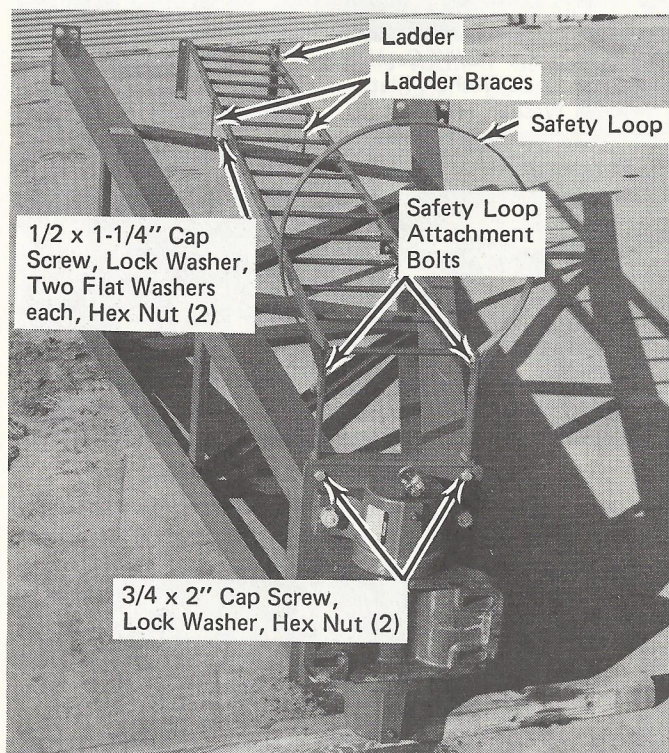

Figure 9. Ladder Installation
6. To install ladder on Samson post, loosen safety loop attachment bolts and extend it. Then attach ladder to top of Samson post with two bolts shown in figure 9. Raise bottom end of ladder and install two braces between ladder and Samson post. Angles attached to bottom of ladder should be repositioned in towards Samson post.